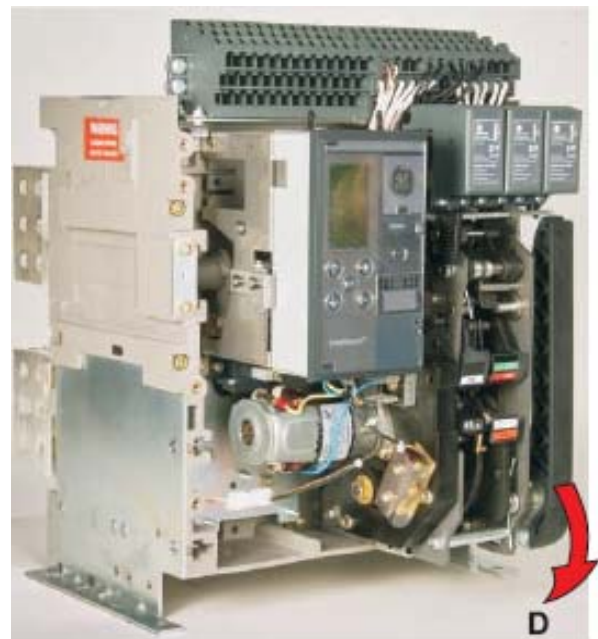

Figure 5.
6. To Reinstall the cover, rotate the charging handle down and slide the front cover over the handle to assemble the front cover to housing as shown in Fig. 5.